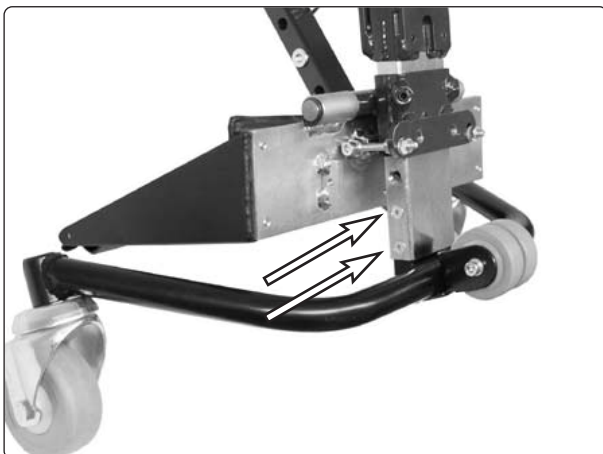
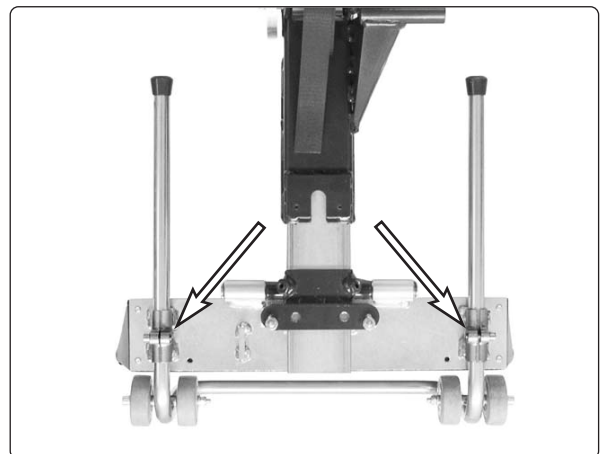

Fig. 22. Support wheel attachment on seats equipped for stand-up driving.
Fig. 23. Support wheel attachment on seats without stand-up driving functionality.
1. Unscrew and remove the support wheels. On seats equipped for stand-up driving, they are mounted using two screws on each side of the leg rest, see Fig. 22. On seats without stand-up driving, they are mounted on the rear edge of the foot plate, see Fig. 23.